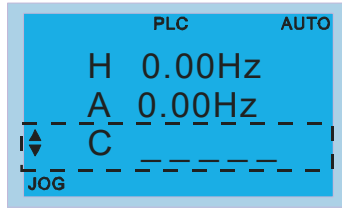

Figure 16-2
8. When you set Pr.00-04 to 28, the displayed value is the value of PLC register D1043, as shown in Figure 16-2 below).